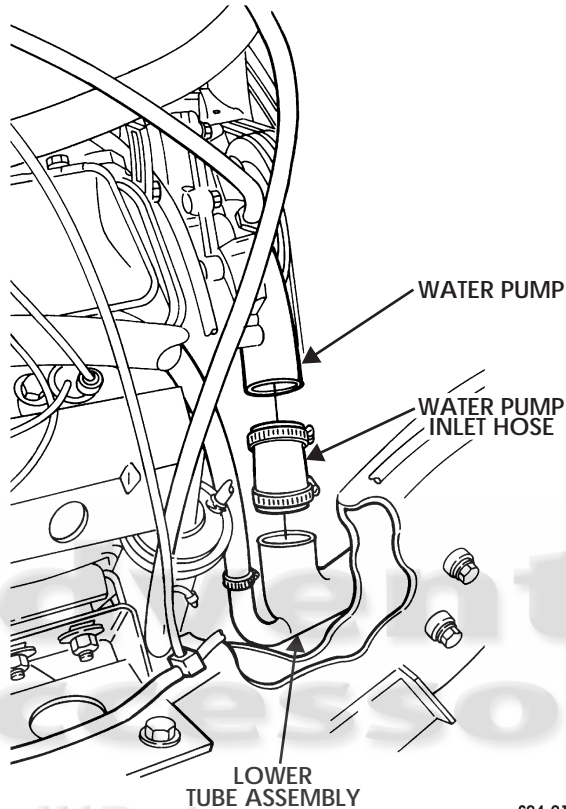

Figure 4-17: Water Pump Inlet Hose
2. Remove water pump inlet hose from water pump and lower tube assembly (Figure 4-17).
1. Install water pump inlet hose on lower tube assembly and water pump (Figure 4-17).
4. Disconnect lower radiator hose at water pump inlet (Figure 4-17).